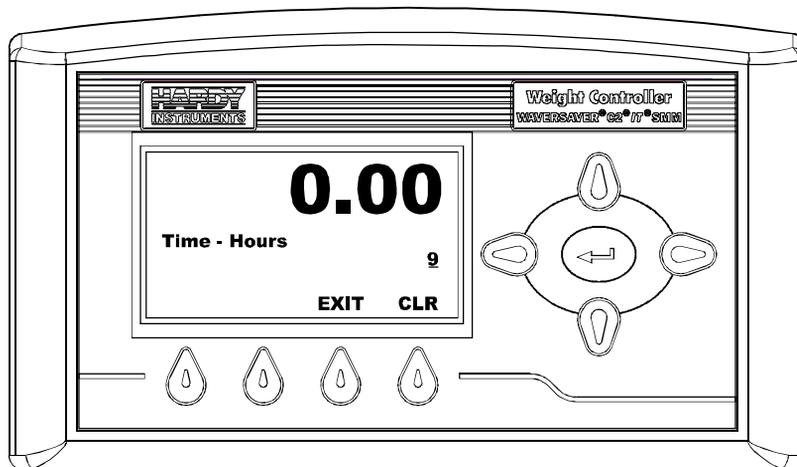

FIG. 105 TIME - HOURS MENU
- Step 16. Press The Enter button. The Time - Hours Menu appears. (See Fig. 105)